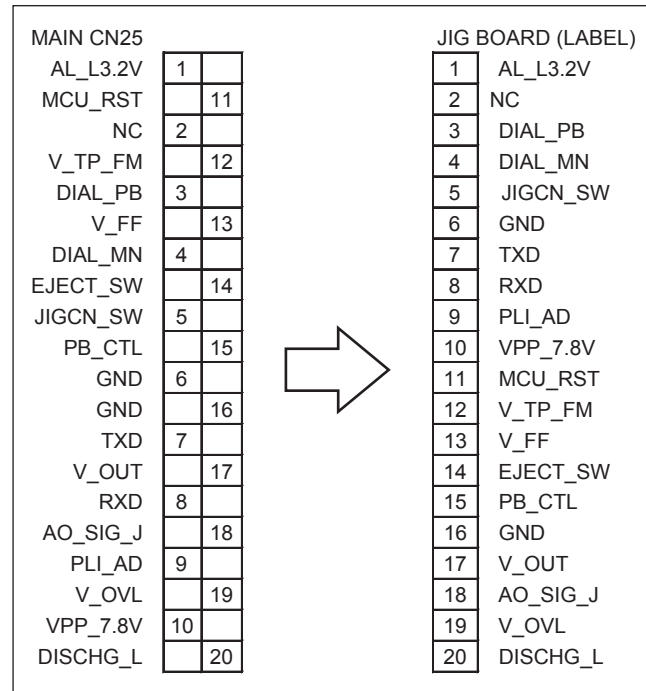

Fig.3-2-2
- (2) Connect the JIG CONNECTOR CABLE to CN25 on the MAIN BOARD ASSEMBLY as shown on Fig. 3-2-2.
- (3) Observe signal at V_TP_FM with external trigger from V_FF on the JIG CONNECTOR CABLE.
- (4) Playback the SP staircase signal of the alignment tape and maximize the FM waveform by the tracking button.
- (5) Set the tracking control to the center position by simultaneously pressing the tracking (-) and (+) buttons and maximize the FM waveform by the tracking button.
- (6) If the observed FM waveform is not flat, adjust the height of the SUPPLY of TAKE-UP GUIDE ROLLER with the roller driver.